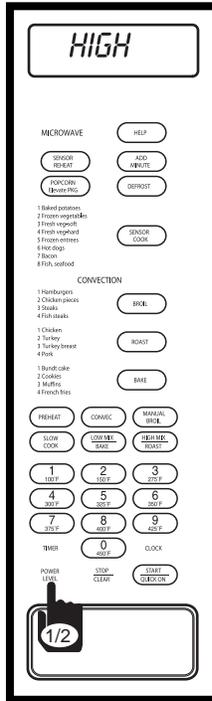

Figure 3-39.
1. Press the POWER LEVEL key twice. The display will flash "HIGH - ENTER - COOKING - TIME". (See Figure 3-39).